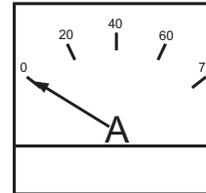

Figure 42. Ammeter (No Load)
10. The ammeter (Figure 42) will indicate zero amps with no load applied. When a load is applied, this meter will indicate the amount of current that the load is drawing from the generator’s alternator.